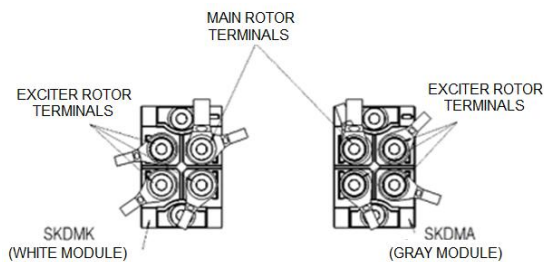

Figure 6.6: Cable connection position on diode modules
- Make the cable connections to the module, tightening them with a torque wrench, respecting the tightening torques of the Table 6-2 and the connection order as per Figure 6.6.